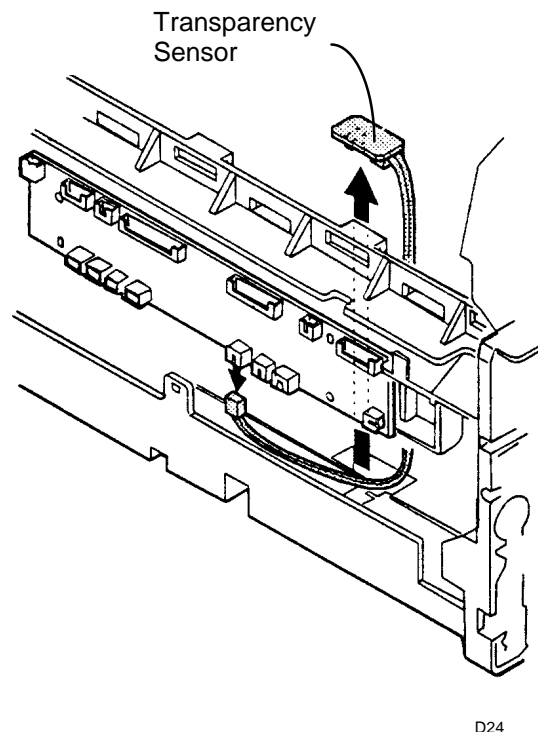

Figure 2. Removing the Transparency Sensor
4. (Figure 2): Disconnect the connector and remove the Transparency Sensor.